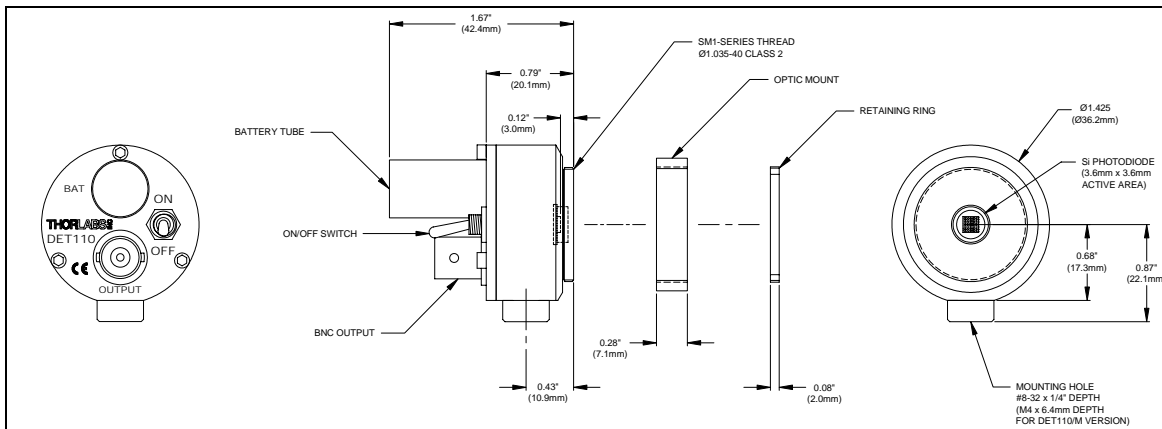

Figure 1. - Mechanical Dimensions
- marked correspondingly with the crossed out “wheelie bin” logo (see fig. 1)